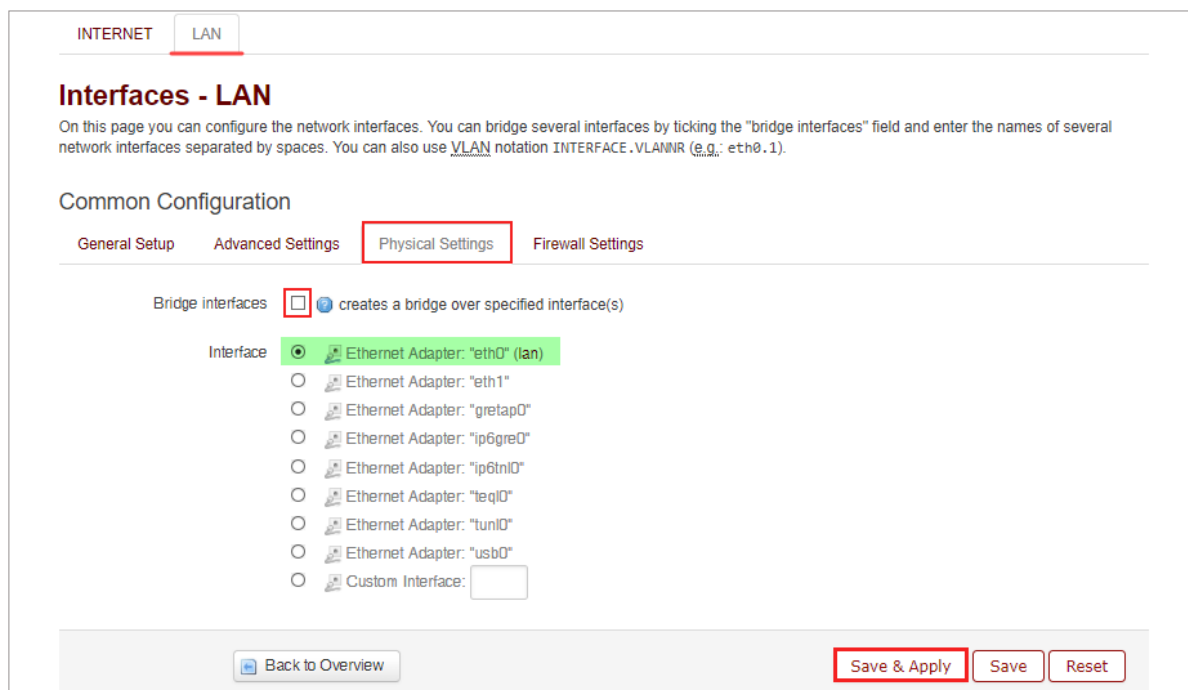

Fig. 23. Separating LAN bridge.
2. In the opened window on the **Physical settings** tab disable the bridge (uncheck the box **Bridge interfaces**) and clear the check box for one Ethernet adapter, for example, the "**eth1**" (Fig. 23).